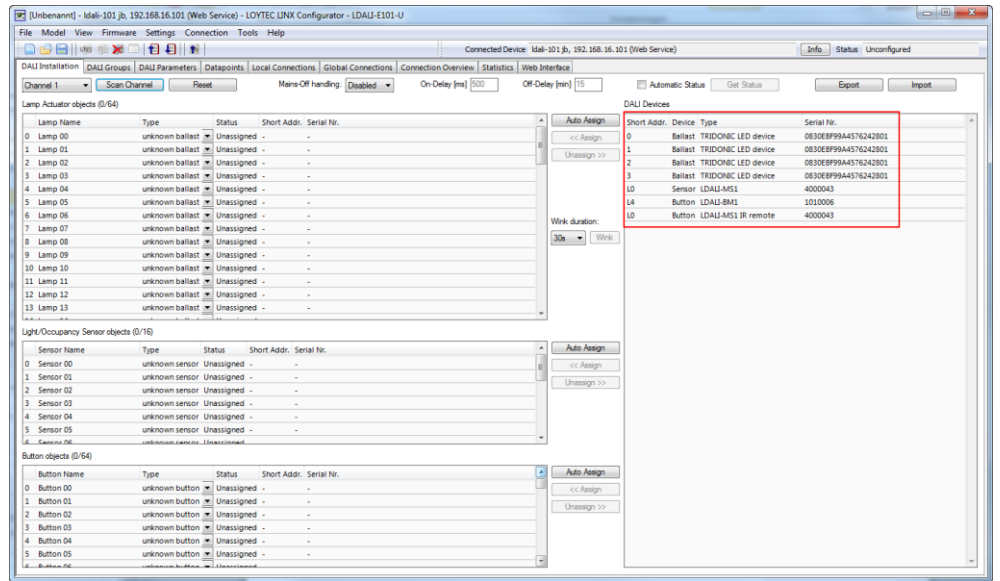

Figure 32: LINX Configurator software, detected DALI devices.
- The L-DALI device scans the selected channel and displays all detected devices as shown in Figure 32. In case an error occurs see the LOYTEC Device User Manual [1] for a description of the error codes and possible reasons.